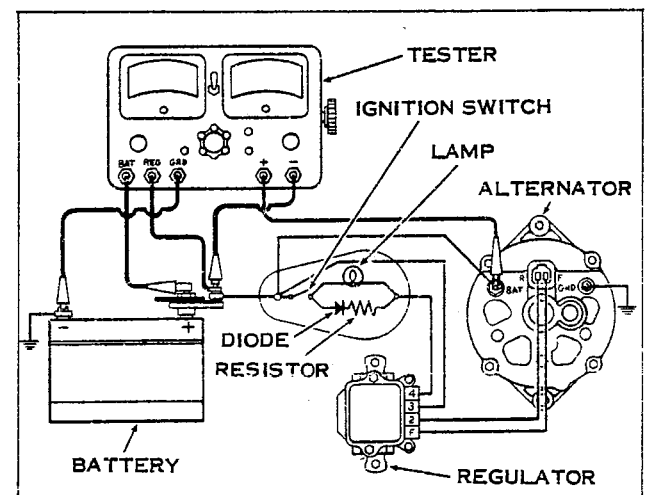

Figure 4.
C. INSULATED (POSITIVE) BATTERY CHARGING CIRCUIT RESISTANCE TEST (See Figure 4)